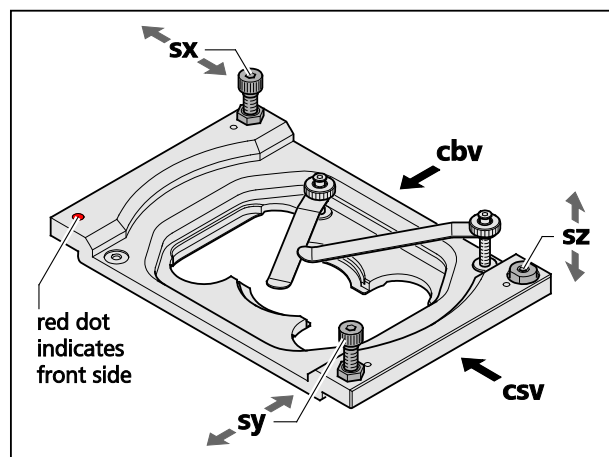

Fig. 11 Adjustable sample holder – schematic view
0. Adjust the edges of the clefts viewed from the right side (Fig. 11/**csv**) and back side (Fig. 11, **cbv**) to be parallel by using screws **sy** and **sx**, respectively (Fig. 11). The cleft's width should be approximately 2 mm as preset by the factory, but can be adjusted with screw **sz** if needed.
6. Adjust the adjustment screw **sx** of the sample holder until the reflection line is horizontal (Fig. 11). You might need to re-adjust the z-range when turning the screw.